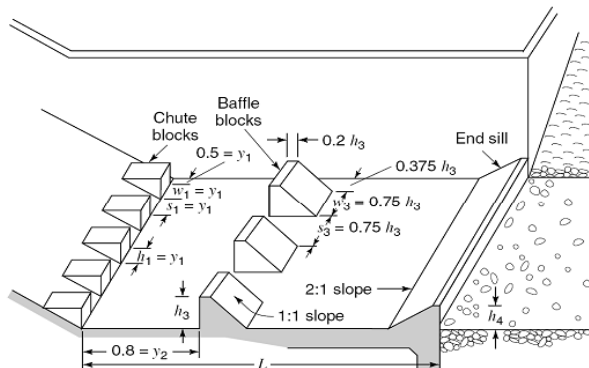

Figure 4. Basin Type III – For canal structures, small outlet works, and small spillways (U.S. Bureau of Reclamation, 1987).
6. To finalize the design, chute blocks, basin blocks (baffle blocks) and end sill are needed. The standard design of a chute uses a type III stilling basin as shown in Figure 4.
As noted in Figure 4: